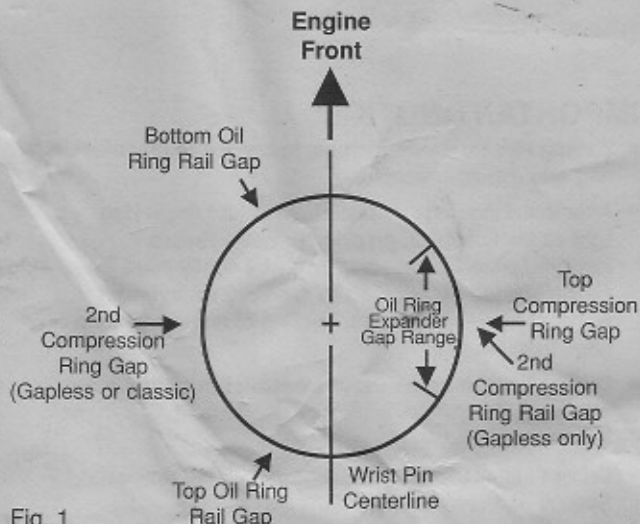

Fig. 1
- 1) Install machined ring first with groove side down and gap 180° from top ring end gap (see fig. 1).
- 2) Install rail into groove machined in ring with gaps opposed 180° (see fig. 1).
- 1) Three piece type - install as shown in figure 1.